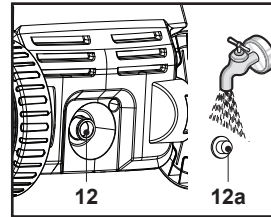

Fig. 22
2. Remove the filter screen (12a) from water inlet connector (12) and rinse under tap water to remove any foreign objects (Fig. 22). Reinstall the filter screen (12a) afterwards.